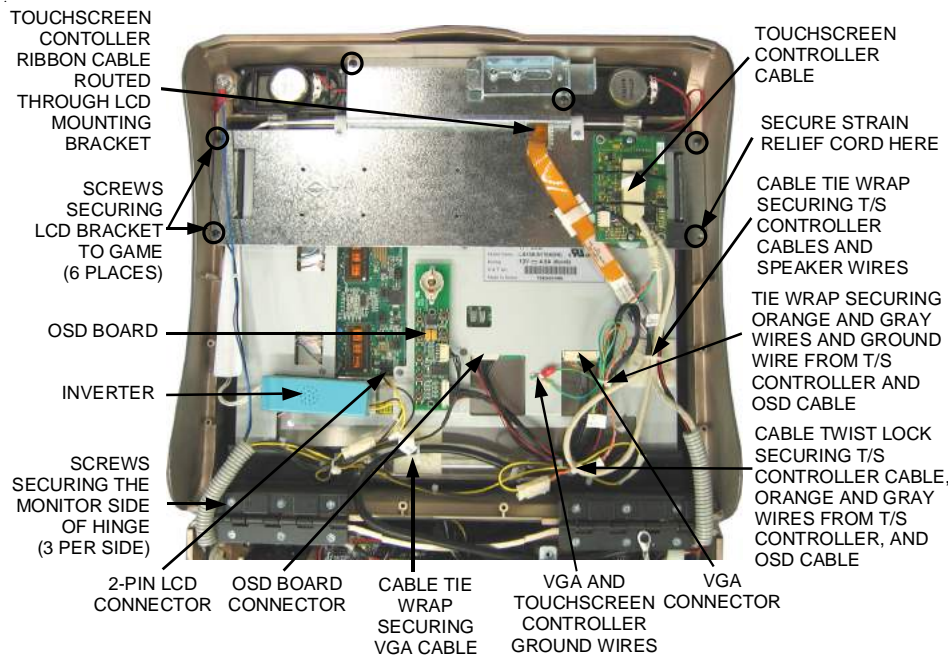

FIGURE 13 – FORESEESONS MONITOR IN 17" ION COUNTERTOP GAME
3. *Very carefully* cut the tie wraps securing the touchscreen controller cable to the touchscreen controller. Then, disconnect the cable from the touchscreen controller. See Figure 13.
5. Cut the tie wrap securing the touchscreen controller cables and speaker wires on the back of the monitor (see Figure 13).
6. Cut the tie wrap securing the orange and gray wires and ground wire from the touchscreen controller and the OSD cable. See Figure 13.
7. Remove the touchscreen controller cable, the orange and gray wires (from the touchscreen controller) and the OSD board cable from the cable twist lock. See Figure 13.
9. Disconnect the 2-pin LCD connector, the OSD connector and the VGA connector from the back of the monitor. See Figure 13.
10. Remove the screw and washer securing the VGA and touchscreen controller ground wires to the back of the monitor. See Figure 13.
11. Remove the OSD board and inverter from the Velcro attached to the back side of the monitor and set them aside. See Figure 13.
12. Place something in front of the game to brace the bezel once the strain relief cord is undone, then remove the screw and washer securing the strain relief cord. See Figure 13.
13. Remove the remaining 5 screws fastening the LCD mounting bracket to the game. See Figure 13.
21. Route the touchscreen controller cable through the hole in the LCD mounting bracket. See Figure 13.
22. Fasten the strain relief cord under the LCD mounting bracket screw designated in Figure 13. Replace the remaining 5 screws securing the mounting bracket to the bezel. See Figure 13.
23. Tighten the 3 screws per hinge that were loosened during removal of your old monitor. See Figure 13. Make sure the spacers beneath the hinges are aligned correctly as you tighten the screws.
25. Install the 2 existing nylon spacers on the standoffs where the touchscreen controller will be mounted (see Figure 13). If your touchscreen controller did not have nylon spacers, install the 2 provided spacers. Then, secure the touchscreen controller to the standoffs on the LCD mounting bracket using the existing screws.
26. Secure the ribbon cable from the touchscreen controller in the cable clamp on the LCD mounting bracket. See Figure 13.
28. Connect the 2-pin LCD connector to the back of the monitor. See Figure 13.
29. Connect the OSD connector to the monitor. See Figure 13.
30. Connect the VGA monitor connector to the monitor. See Figure 13.
31. Replace the screw and washer securing the VGA and touchscreen controller ground wires to the back of the monitor. See Figure 13.
32. Replace the touchscreen controller cable, the orange and gray wires (from the touchscreen controller) and the OSD board cable in the cable twist lock as shown in Figure 13.
34. Thread the provided tie wrap through the adhesive cable tie wraps just installed and secure the touchscreen controller wires and OSD cable wires in the cable tie wrap shown in Figure 13. Secure VGA cable in the other cable tie wrap in the same fashion.